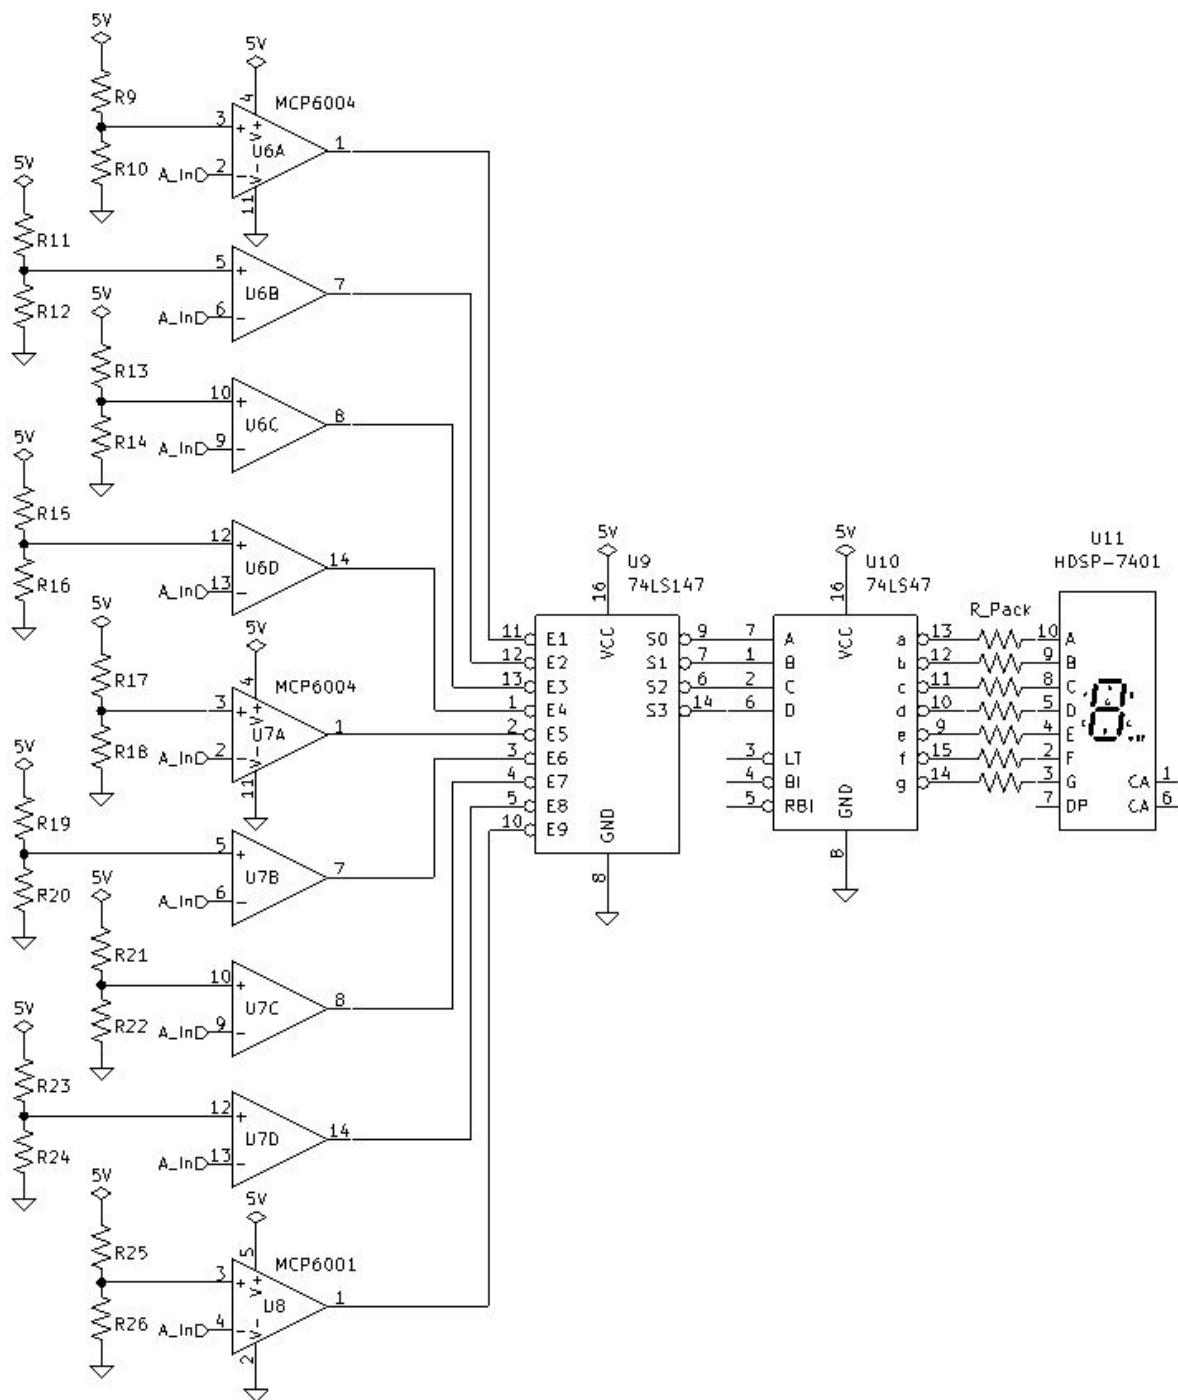

Figure 8.2: ADC Engineering Department Prototype Circuit.
1. The Engineering Department has sent you an ADC prototype circuit that they are working on. The ADC circuit is not working as expected. The Engineering Department needs you to analyze the circuit and make sure all the connections are correct. See Figure 8.2 *ADC Engineering Department Prototype Circuit* on page 85.